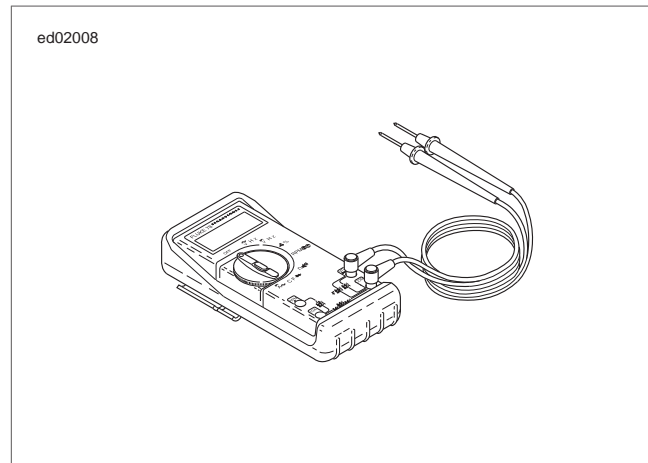

Figure 1-26. Digital Multimeter (Fluke 78) (Part No. HD-39978)
1. See Figure 1-26. Connect DIGITAL MULTIMETER (FLUKE 78) (Part No. HD-39978) to wiring harness between the suspect connections. When diagnosing ECM connections, use BREAKOUT BOX (Part No. HD-43876) to simplify the procedure. See 1.2 DIAGNOSTIC TOOLS.